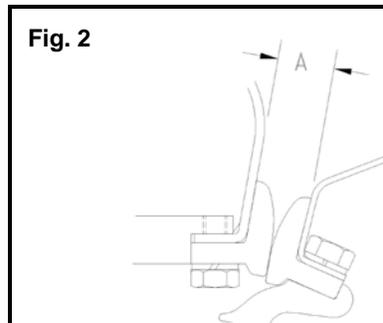

Fig. 2
1. With all power removed, pivot the arc shield (12) upward.
2. Check that the movable contact tip (15) is against the ledge located on the movable contact holder (36) (Fig. 2).
3. Make sure that the stationary contact tip (15) is against the ledge on the stationary support (26). (Fig. 2).
4. The contact tip surfaces must be aligned both vertically and horizontally (Fig. 2).
5. Pivot the Arc Shield (12) back to its proper position.
The contact tips should be replaced when the contacts are worn down to dimensions shown in Figure 2.